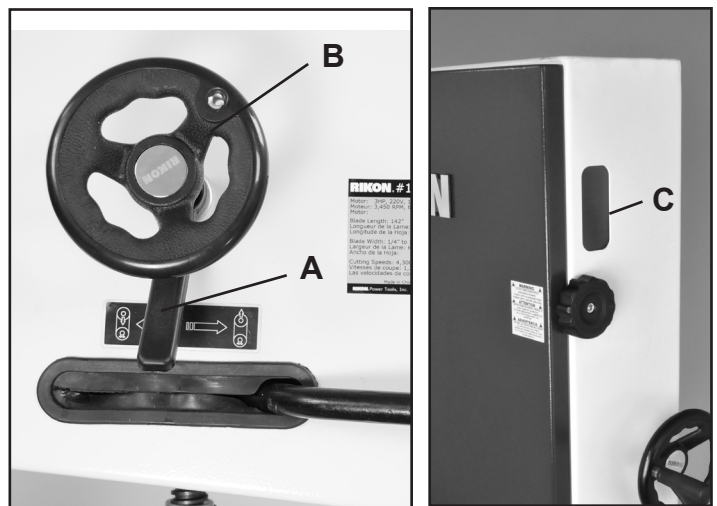

FIGURE 15
1. Open both doors. At the rear of the machine, loosen the Lock Lever (#27D, FIG. 15, A) by turning it counterclockwise.
2. Turn the Blade Tracking Handle (#28D, Fig. 15 B) clockwise or counterclockwise, while at the same time carefully turning the Upper Wheel (#1F) by hand. Reference Fig. 16, on page 14. Check the tracking of the blade on the wheel through the side window (C). Make at least three rotations of the wheel or until the blade tracks centered on the wheel.